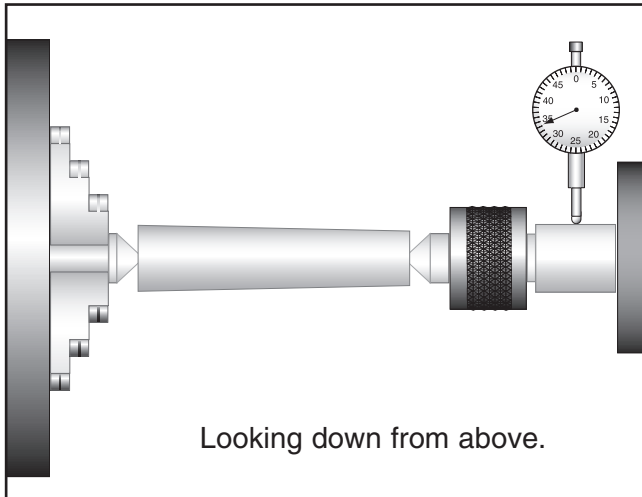

Figure 41. Adjusting for tailstock end taper.
- If the stock is thinner at the tailstock end, the tailstock needs to be moved toward the rear of the lathe by at least the amount of the taper (see **Figure 41**).